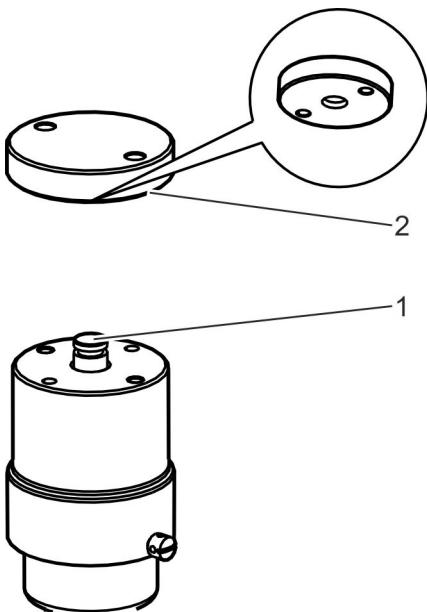

Fig. 29: Attaching the blocking device
6. ➤ Place the blocking device (Fig. 29/2) on top of the guide (Fig. 29/1) that protrudes from the body.